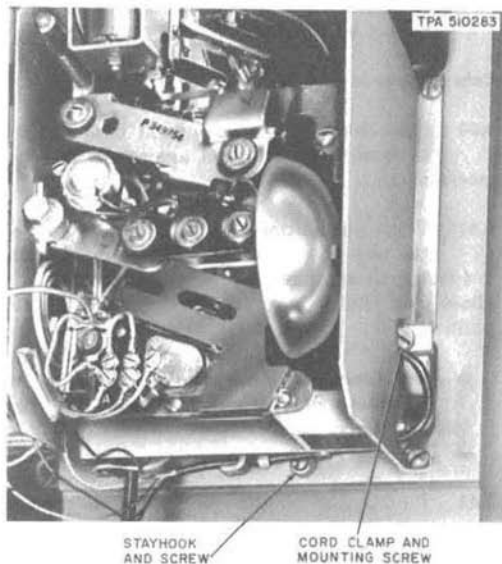

Fig. 34—Location of Armored Cord Mounting Hardware in 235- and 1235-Type Coin Collector
6.52 Refer to Fig. 34 for routing and securing handset cord in 235- and 1235-type coin collectors.